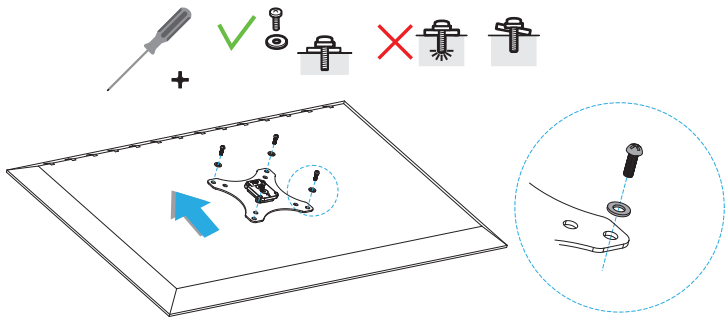

Figure 14
3. Insert the appropriate **M-Type Screws** (x 4) through the **Washers** (x 4), **VESA Monitor Mount**, and into the back of the **Monitor**. (Figure 14)
- Insert the appropriate **M-Type Screws** (x 4) through the **Washers** (x 4), **VESA Monitor Mount, Spacers** (x 4) and into the back of the **Monitor**. (Figure 14)